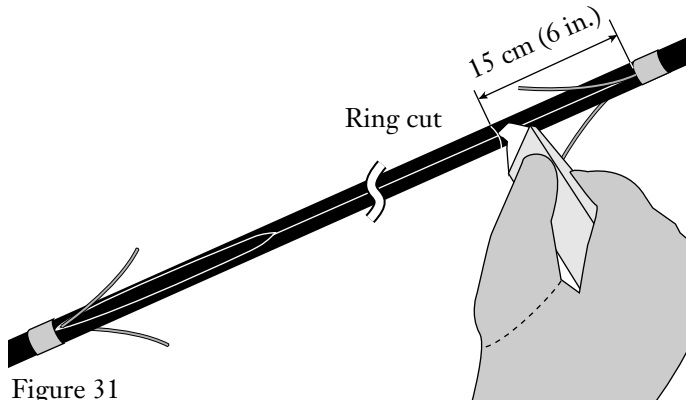

Figure 31
7.13 Use the hook blade knife to make a ring cut through the black outer sheath 15 cm (6 in.) from the other tape mark (Figure 31).